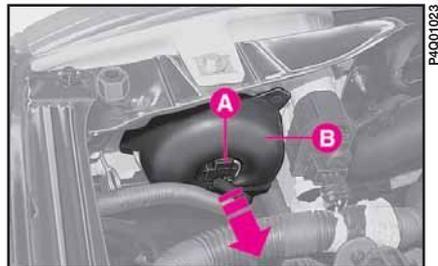

fig. 12
- 1) take out the connector **A**-fig. 12 then the rubber protection **B**;